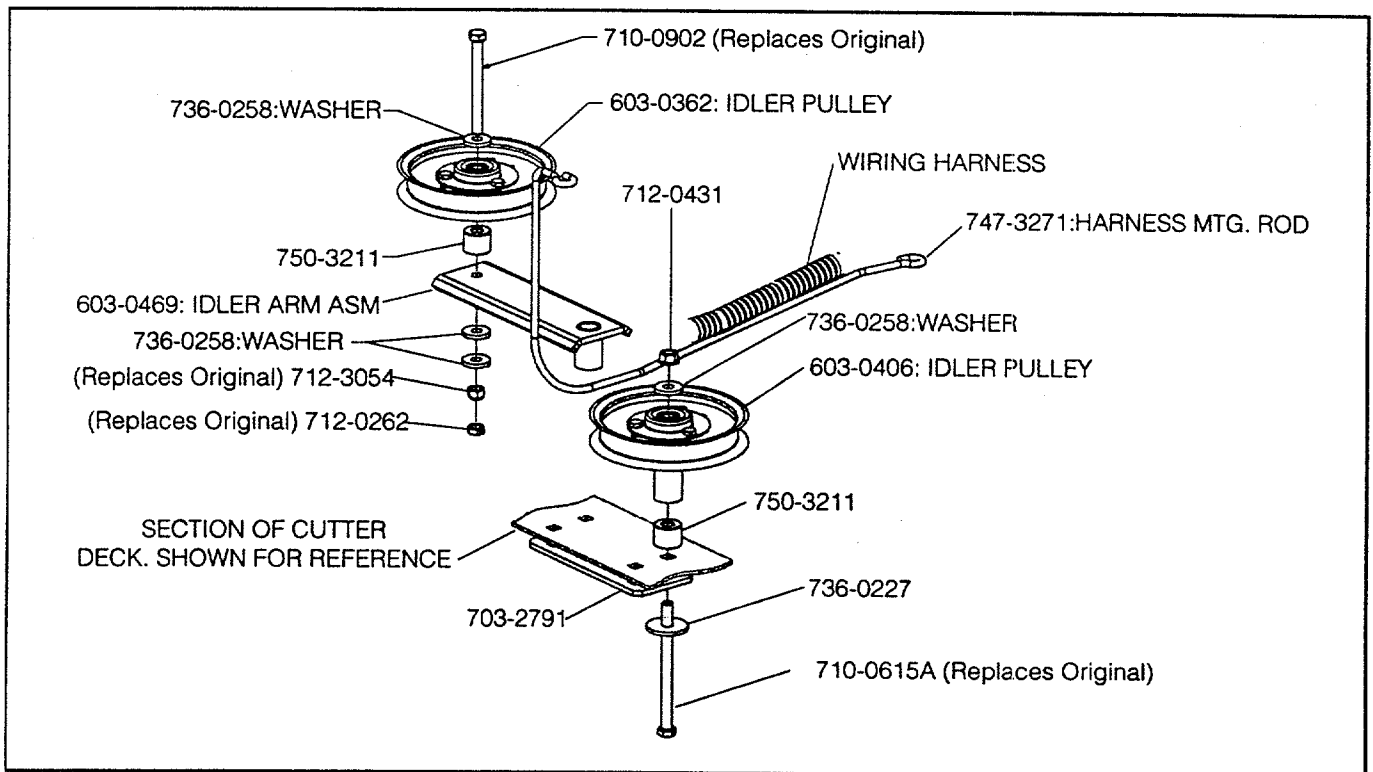

Figure 1
4. Install 750-3211 under 603-0406 using 710-0615A, 736-0277 and 712-0431. (place 736-0258 in appropriate position as shown in Figure 1)
7. Install 750-3211 under 603-0362 using 710-0902 and 712-3054 placing all washers in appropriate positions as shown on Figure 1.
Important: After installing the (2) 750-3211 spacers, look for the wiring harness mounting rod P/N 747-3271 underneath the floor of the Z-Series mower. (Figure 1) Be sure to use electrical tape and mount the wiring harness above the rod as shown in Figure 1